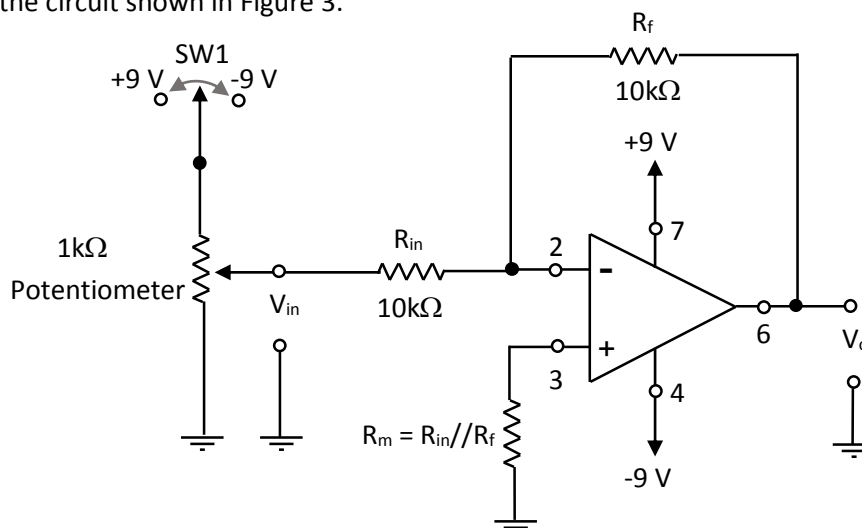

Figure 3: Inverting amplifier with gain = 1
Consider the circuit shown in Figure 3.
1. Connect the circuit as shown in Figure3. Show the circuit to your demonstrator before turning on the power to the circuit.